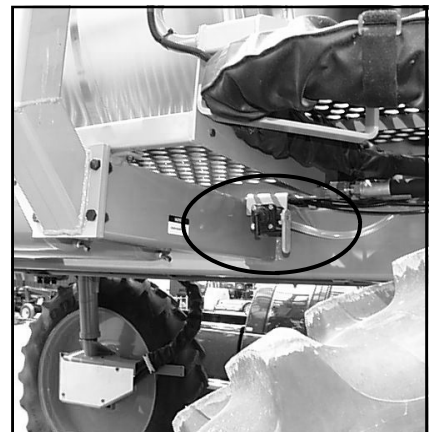

FIG 68-4
**HAND WASHING SYSTEM**– Fill the hand wash tank (fig. 68-3) with fresh water only! The hand wash valve is located under the left side of the sprayer (fig. 68-4). Remember to close the valve before refilling.